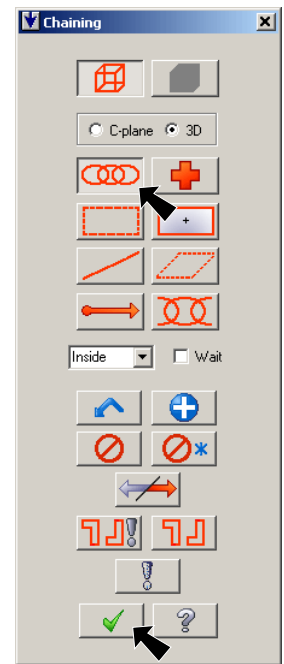

Fig. 5
Step 4. Click Chain in Chaining dialog box, Fig. 5.